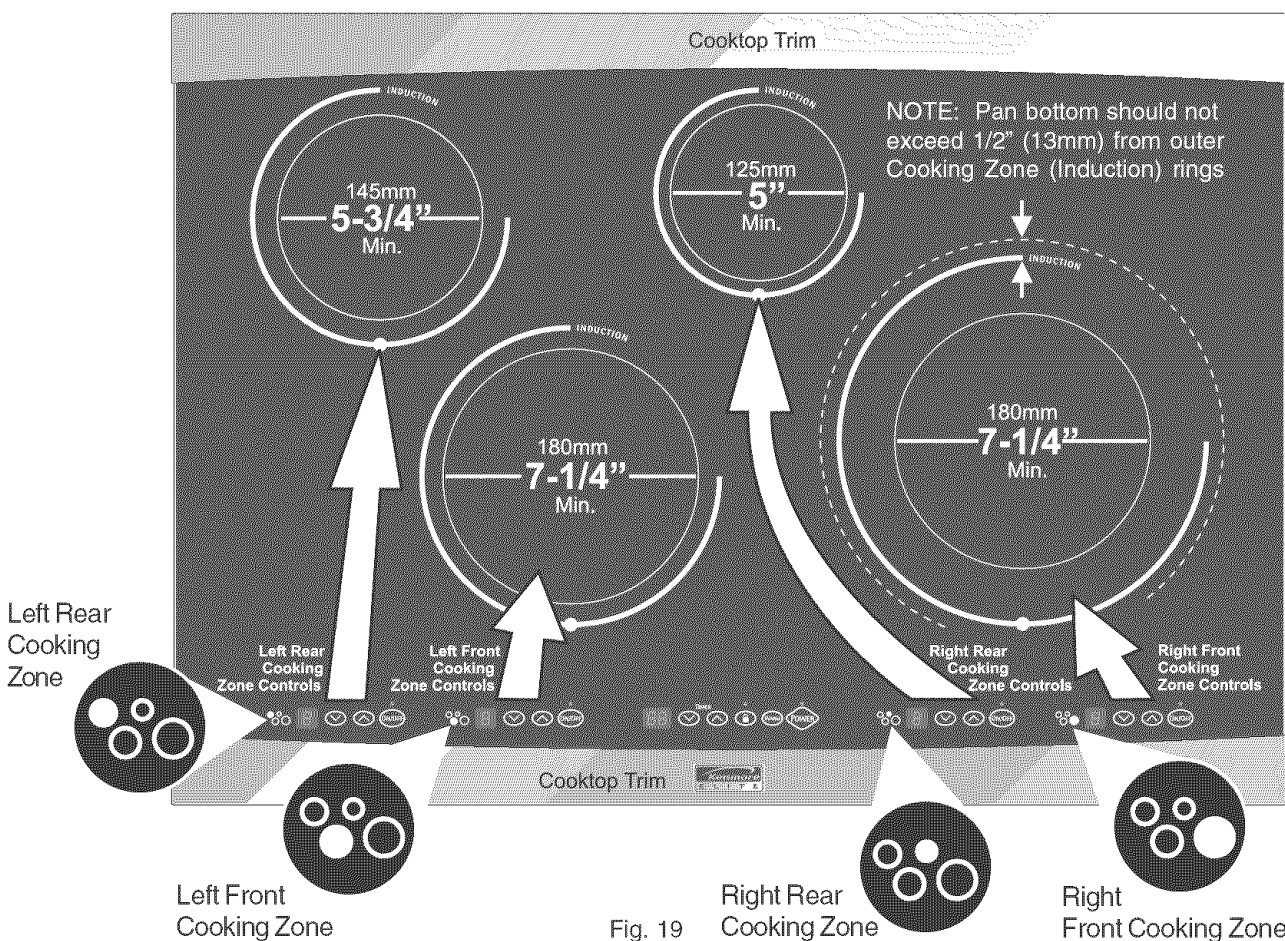

Fig. 19
USE THE CORRECT SIZE COOKWARE - The 4 Cooking Zones available on the Induction Cooktop require a **MINIMUM** pan size to be used at each location (Fig. 19). The inner ring of each Cooking Zone is your guide to the correct **MINIMUM** pan size. The pan bottom must **FULLY** cover the inner ring for proper cooking to occur.
The thicker outer ring at each Cooking Zone is helpful to determine the pan **MAXIMUM** size. After centering the cookware on the cooktop, make sure the cookware does not extend more than 1/2" beyond the thicker line on the Cooking Zone (See example in Fig. 19). The pan must make **FULL** contact on the glass surface without the bottom of the pan touching the metal cooktop trims (Shown in Fig. 19).
- Pan does not meet the minimum size required for the Cooking Zone used (See Fig. 19).
- Pan size meets or exceeds the recommended minimum size for the Cooking Zone (See Fig. 19).
The Induction cooktop has four Cooking Zones designed for cookware of various sizes. Be sure to place cookware that meets the minimum and maximum pan size requirements (Fig. 19) for the Cooking Zone desired and is best for the amount of food being prepared. Place the cookware with the prepared food on the Cooking Zone **BEFORE** setting any of the Cooktop controls.